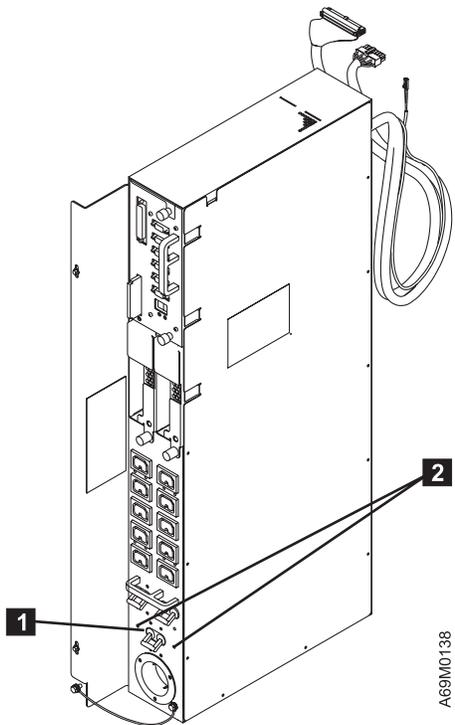

Figure 79. FCA 24 V dc Indicators
1. Ensure that all three circuit protectors **1** on the back of each installed FCA are ON (see Figure 79 on page 452).
2. Visually check the two 24 V dc indicators **2** on each installed FCA (see Figure 79 on page 452).